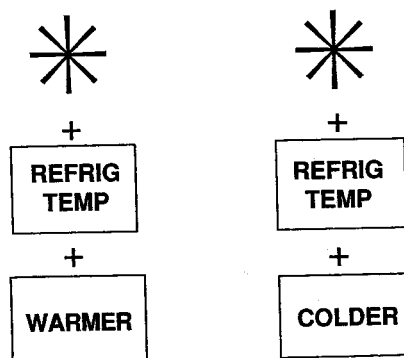

Figure 11
- To set or change refrigerator temperature, press START (*) pad; press REFRIG TEMP; press WARMER or COLDER to raise or lower temperature setting *one* level at a time. Press and hold WARMER or COLDER pads to raise or lower temperature *more than one* level at a time. See Figure 11.